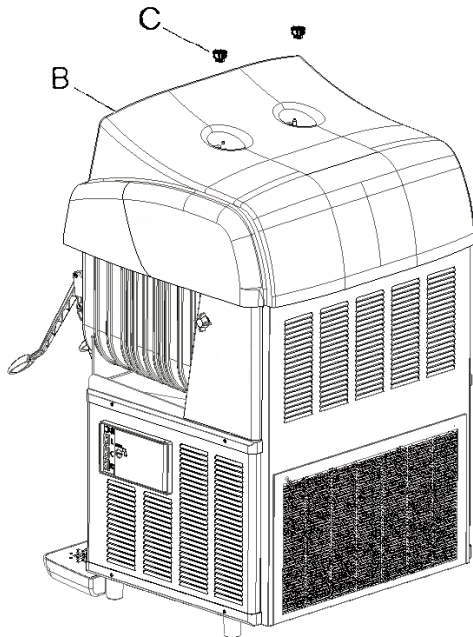

Fig. 34
- Unscrew the fixing knobs C and remove the cover B (fig.34);